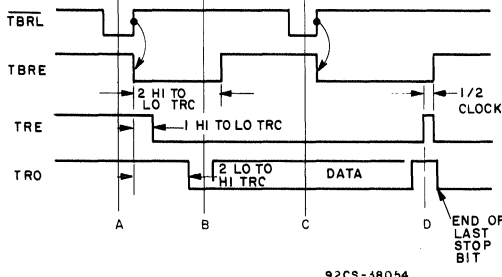

Fig. 3 - Transmitter timing waveforms.
Transmitter timing is shown in Fig. 3. (A) Data is loaded into the transmitter buffer register from the inputs TBR1 through TBR8 by a logic low on the TBRL input. Valid data must be present at least t_{DT} prior to, and t_{DD} following, the rising edge of TBRL. If words less than 8 bits are used, only the least significant bits are used. The character is right justified into the least significant bit, TBR1. (B) The rising edge of TBRL clears TBRE. One Hi to Lo transition of TRC later, data is transferred to the transmitter register and TRE is cleared. TBRE is reset to a logic High one Hi to Lo transition after that.